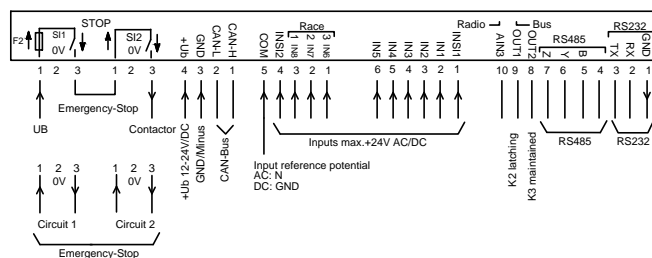

Figure 7: Connections at the RES receiver
- DE8.4.13 The status of the switch (K2) and the button (K3) at the sender is contained in the PDO 2000 (bit 1 and 2) as well as on the digital outputs, see Figure 7. The E-Stop is signalized by PDO 2000 bit 0 and PDO 2003 bit 7. PDO 2006 contains the radio quality (0 % to 100 %) whereas PDO 2007 summarizes several radio states, i.e. the pre-alarm radio communication interruption (bit 6, 200 ms in advance to shutdown).